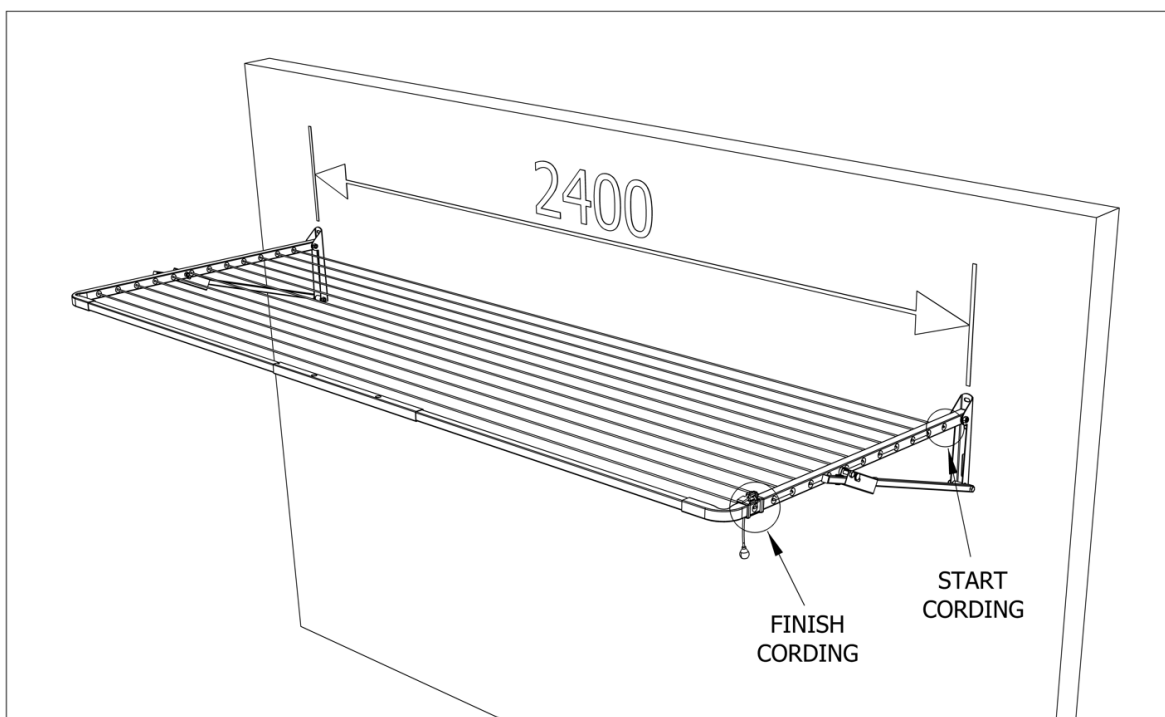

Fig 1. Compact 28 installed to wall / Cord start stop positions.
7. Start cording at the rear right-hand hole, tie a knot in the cord to stop it pulling through. (Fig 1)
8. Working across and toward the front of the clothesline finish at the Line Tension Lock (L.T.L.) front right. (Fig 1)